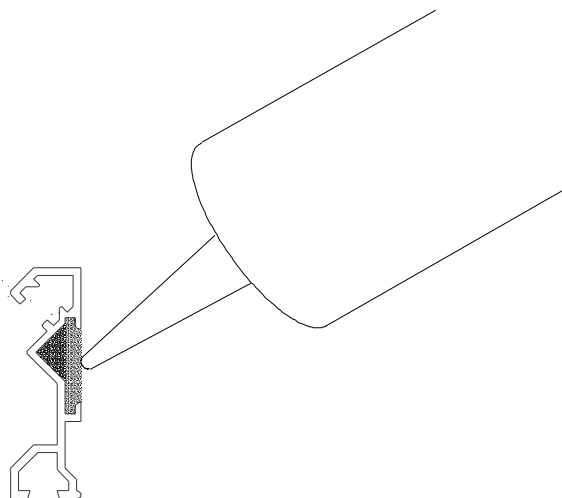
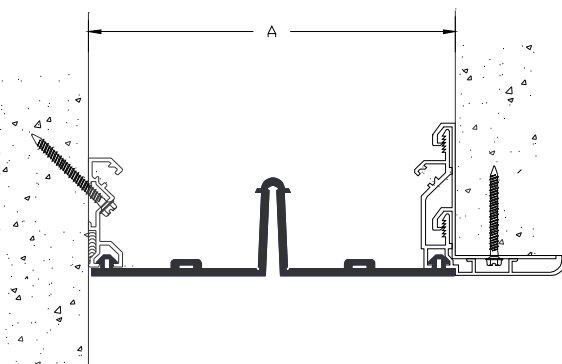

Figure 5
Figure 6
**STEP 9.** Select a base member to be adhered to the substrate. Select the adhesive. Sikaflex 1a is recommended. Apply adhesive to the largest channel on the back of the base member, see Figure 5. Suitability of the sealant/adhesive is determined by the capability of the product to bond aluminum to the substrate. If use of an adhesive is not possible, Balco, Inc. offers a base member for this joint cover system corner installation (FCWWE, RAL11 and RAL12), see Figure 6.